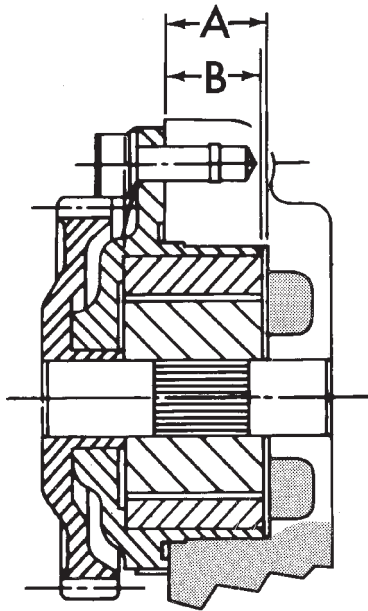

Fig. 72 Oil Pump Bore Depth
(29) Install the oil pick up tube. Torque bolts to 25 N·m (18 ft. lbs.).
(30) Install the oil pan. Refer to oil pan removal and installation in this section.
(31) Install the vacuum pump, being careful to align the gear timing marks with those on the crankshaft gear. Torque screws to 20 N·m (15 ft. lbs.).
(32) Before installing the oil pump check pump bore depth in block (A) and pump body height (B) (Fig. 72). Difference between A and B should be 0.020-0.082 mm (.0007 to 0032 in.).